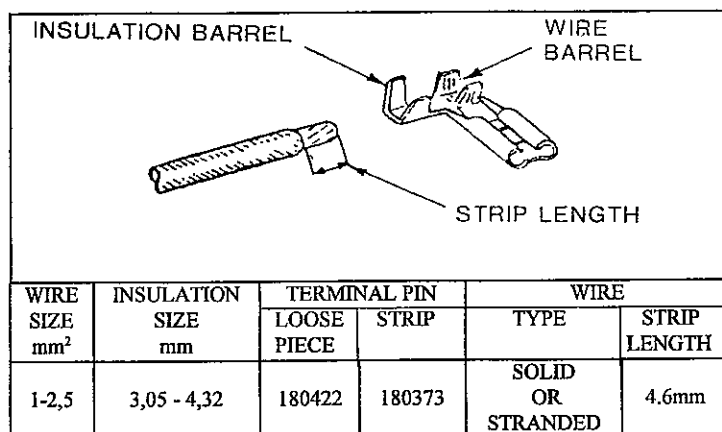

Figure 2
AMP* Hand Crimping Tool 180321 is designed to crimp Flag Faston and Flag Fastin Faston listed in Figure 2.
Refer to Figure 2 and select wire of the appropriate size and insulation diameter. Strip the wire to the dimension indicated, taking care not to nick or cut the conductors.
1. Crimp terminal as listed in Figure 2, using the correct wire size, according to Section 3, CRIMPING PROCEDURE.